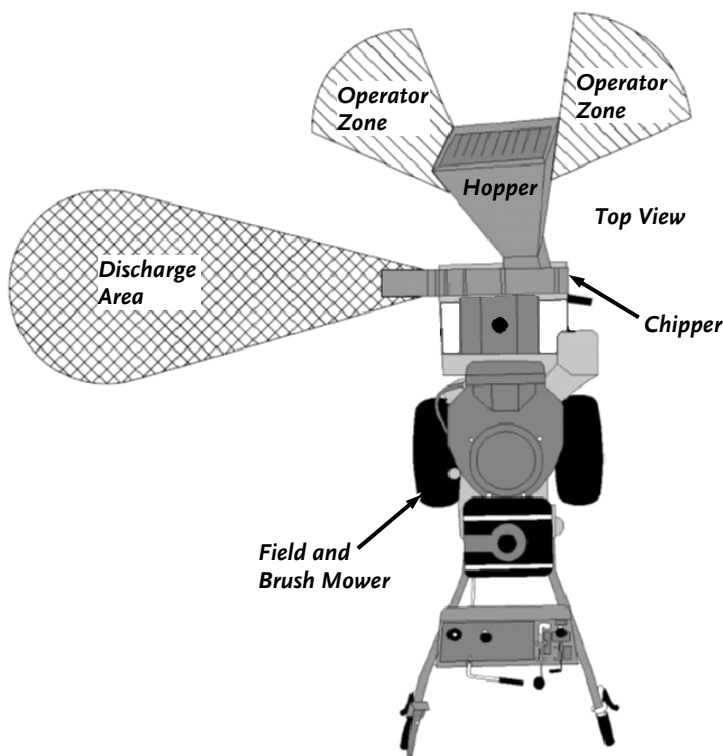

Figure 30
- Only operate the DR CHIPPER ATTACHMENT from the Operator Zone (**Figure 30**).